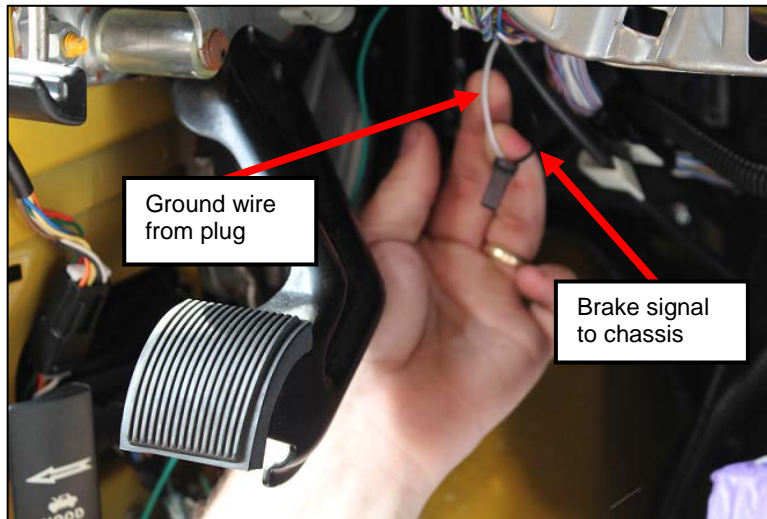

Figure 7: Brake Plug Containing Ground and Signal
5. Remove the loom from the brake wires at a minimum of 4 inches from the plug. See **Figure 7**.